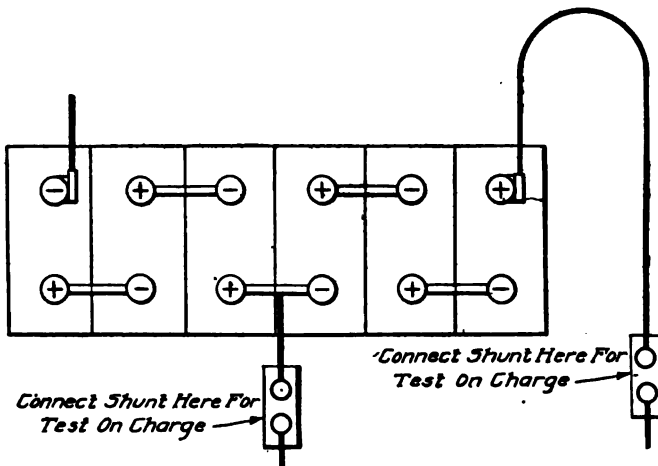

Fig. 476. Setup for Twelve-Volt Battery Wired to Charge and Discharge through Starting Motor at Twelve Volts and through Lamps at Six Volts
*Connections for Two-Voltage Batteries.* Where the battery is of either three or six cells, all connected permanently in series, the foregoing suggestions for connecting the testing instruments apply. They must be varied, however, where tests are to be made of batteries connected in series multiple, which may be termed two-voltage batteries since they supply current at one voltage for lighting and at another for starting. In Fig. 476 is shown a battery of this type which is connected so as to charge and discharge through the starting motor at 12 volts, but which discharges at 6 volts to supply the lamps through a neutral lead in the center of the battery. The sketch indicates where to connect the ammeter shunt on charge at